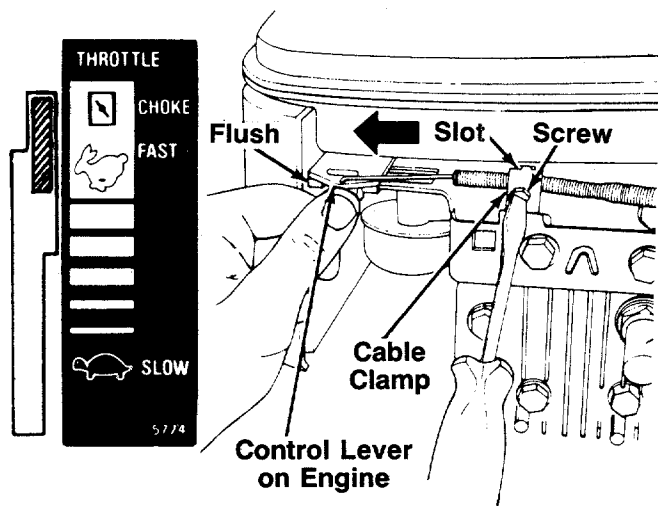

FIGURE 6C.—Models 466R, 469R, 476R and 479R
1. Push the throttle control lever on the handle all the way forward to CHOKE position. See figure 6C.
2. The throttle control cable is attached to the upper handle. Route the throttle control cable under the lower handle and inside the handle mounting bracket. Hook the "Z" end of the throttle control cable into the hole in the control lever on the engine. See figure 6C.
3. Using a 5/16" wrench or nutdriver, remove the screw on the cable clamp shown in figure 6C. Slip the control cable under the clamp. Replace the screw (cable should be above the screw), but do not tighten (cable must still move freely beneath the clamp). Make certain the tab on the cable clamp is seated into the slot on the engine.
4. Push the control lever on the engine as far toward the **outside** of the engine as it will go. The edge of the control lever should be flush with the bracket on the engine. See figure 6C. Hold the control lever in this position as you tighten the screw on the cable clamp to secure the throttle cable.